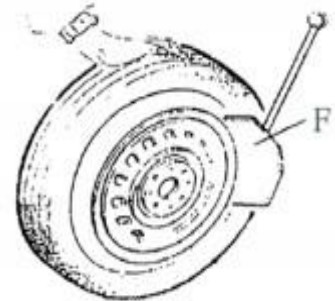

Fig 5
Ensure to exhaust the air in the tyre completely, place the tyre against the rubber buffer (S). Bring the paddle against the bead about 10mm from the edge of the rim shown as Fig 5. Tread Bead breaker Pedal (U) to push paddle into tyre. Repeat the above operations on different positions around the tyre and both sides of tyre until tyre bead is released completely.